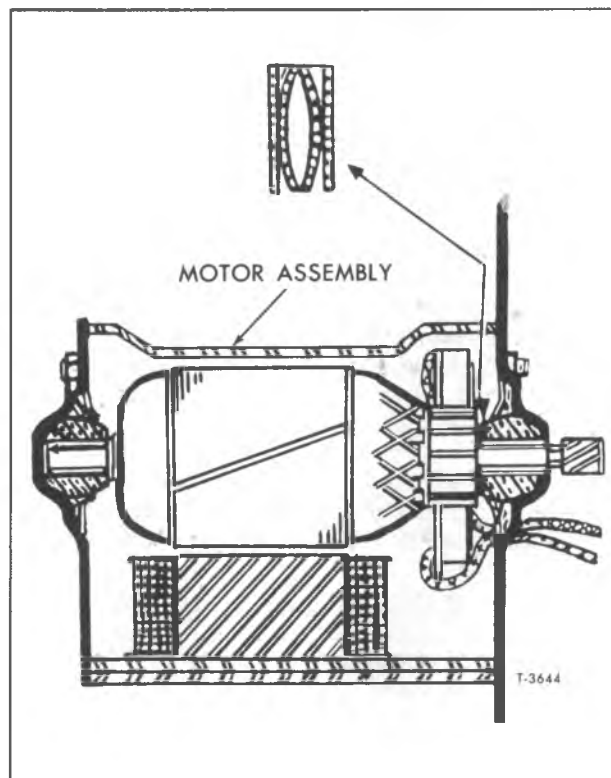

Figure 20—End Play Wave Washer Installation
3. Slide armature and end plate from motor frame and field. Note arrangement of wave washers (fig. 20) on gear end of armature shaft before removing to assure proper installation upon motor assembly.
NOTE: Be sure wave washers on armature shaft are installed properly as shown in figure 20. Lightly lubricate armature shaft bushings with light machine oil. Be sure brushes are properly positioned in holders before armature commutator protrudes between brushes.